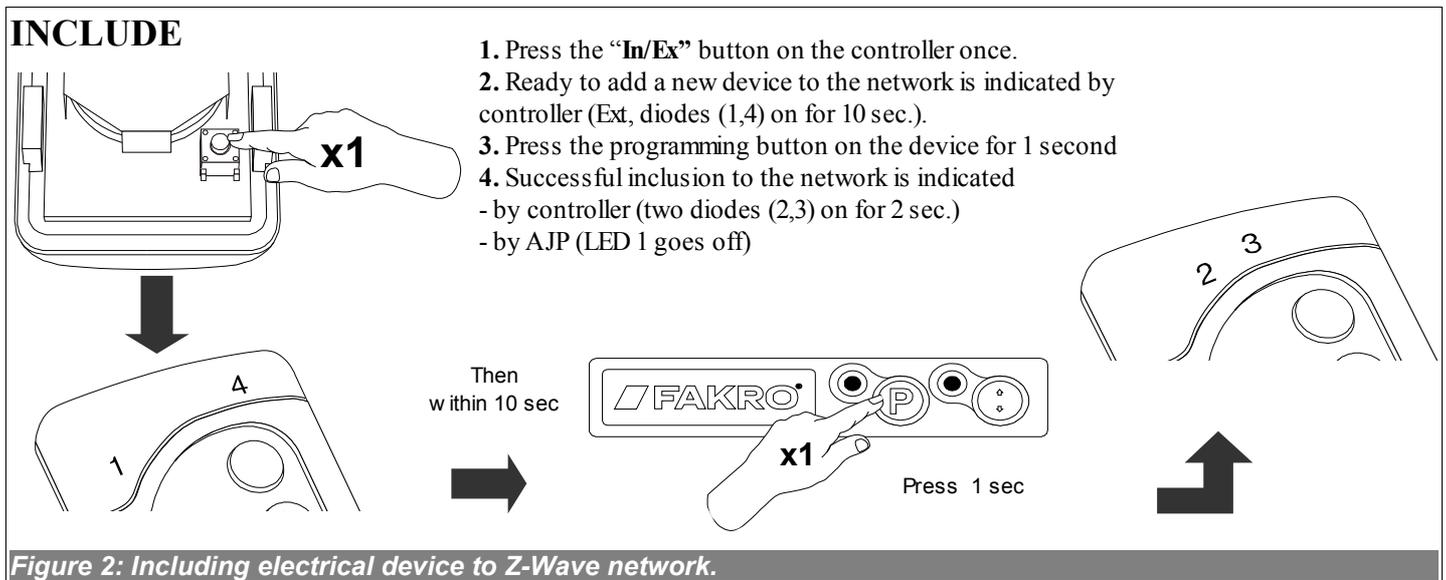

Figure 2: Including electrical device to Z-Wave network.
1. Add the device (using “INCLUDE” function) to selected network. A model procedure is presented in *Figure 2*;